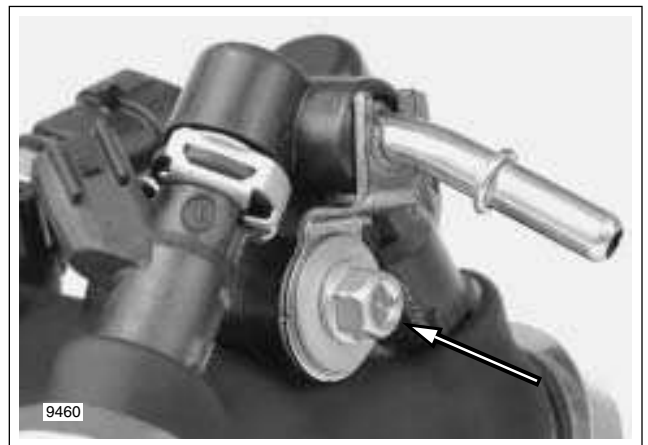

Figure 9-27. Fuel Supply Tube Clamp Hex Screw
2. Remove hex screw (with pilot sleeve) to release fuel supply tube clamp. See Figure 9-27.
6. Push fuel supply tube into fuel rail bore until clamp is seated on round step of fuel rail. Install hex screw (with pilot sleeve) and tighten to 90-110 **in-lbs** (10.2-12.4 Nm). See Figure 9-27.